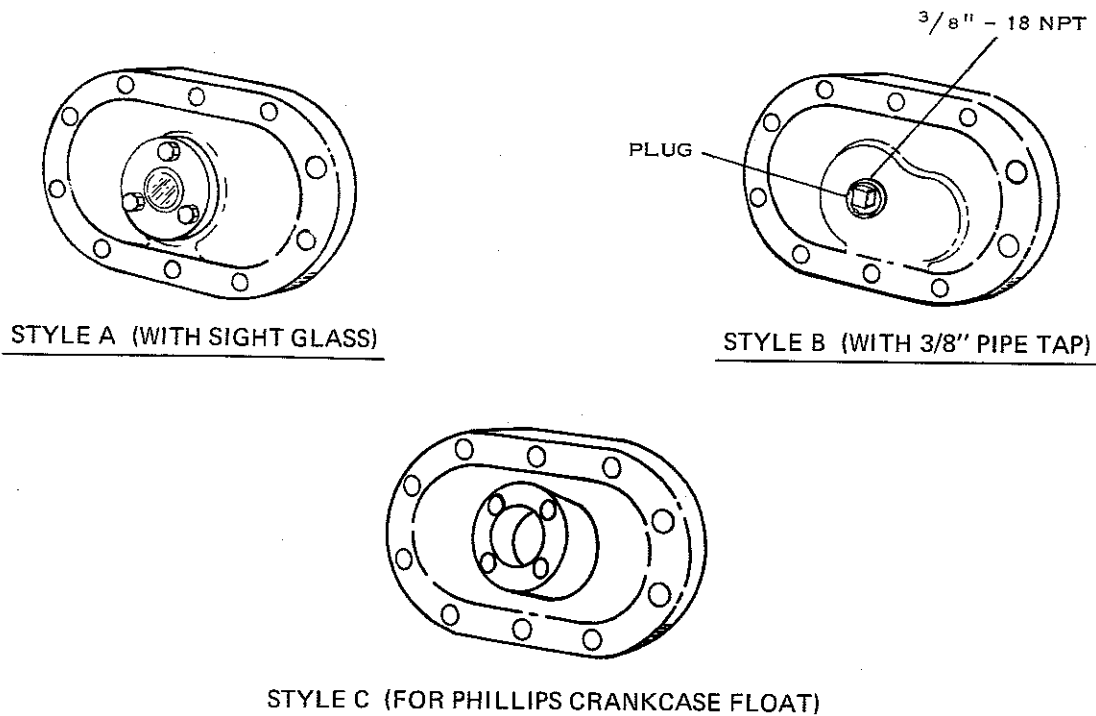

**FIG. 6 — SECTION THROUGH CYLINDER (SEE
¹ See Figures 6 & 7. Present design cylinder sleeve (item 1 above and Figs. 6 & 7) has a raised flange at the bottom which fits into a recess in the compressor deck. "O" ring, item 61, must be used with cylinder sleeve, item 1. Previous design cylinder sleeve (item 2 above and Figs. 6 & 7) has a groove at the bottom to accommodate the "O" ring and the compressor deck was not recessed. "O" Ring, item 60, must be used with cylinder sleeve, item 2. *Cylinder sleeve, item 1, cannot be used in a compressor that does not have a recess in the deck. Cylinder sleeve, item 2, cannot be used in a compressor that has a recess in the deck.*